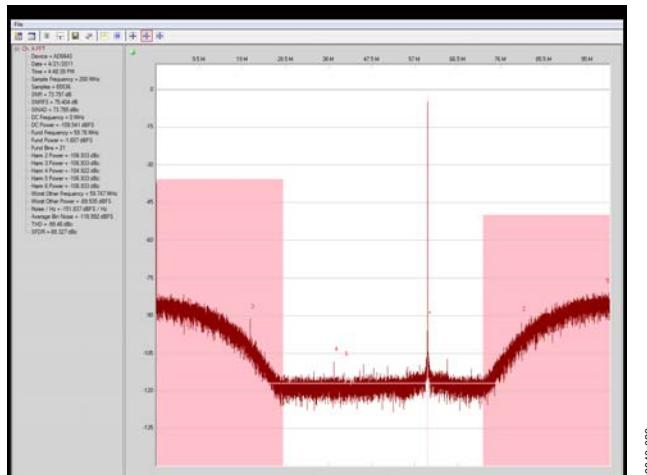

Figure 22. Graph Window of VisualAnalog, NSR Enabled, AD6643
8. The result should show an FFT plot that looks similar to Figure 22.